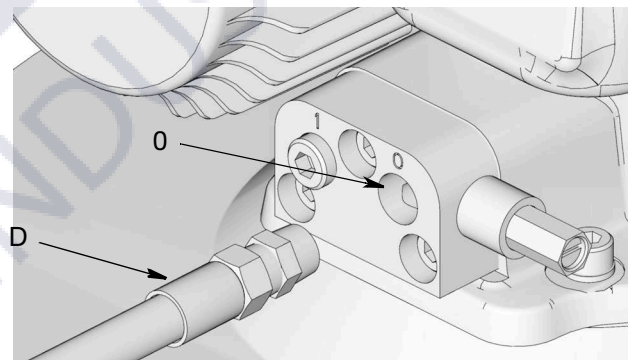

FIG. 54: Lubricant Outlet Connection
- Disconnect Timer/Controller (F) (user supplied, if used).
- Disconnect High Pressure Lubricant Supply Line (D) to the Lubricant Output Connection (O) (FIG. 54) on the Vent Valve or Manifold.